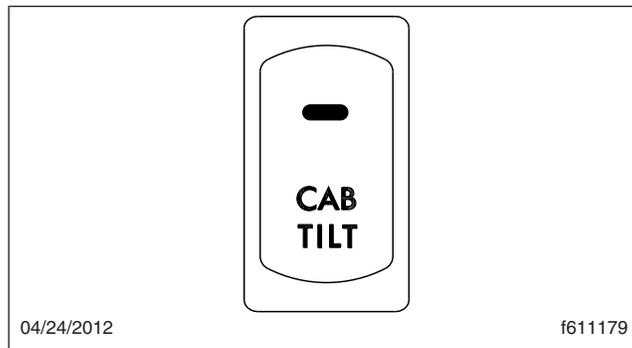

Fig. 26, Cab Tilt Switch
- Secure all loose articles in the cab and bunk, then activate the tilt system power switch on the dash. See Fig. 26.